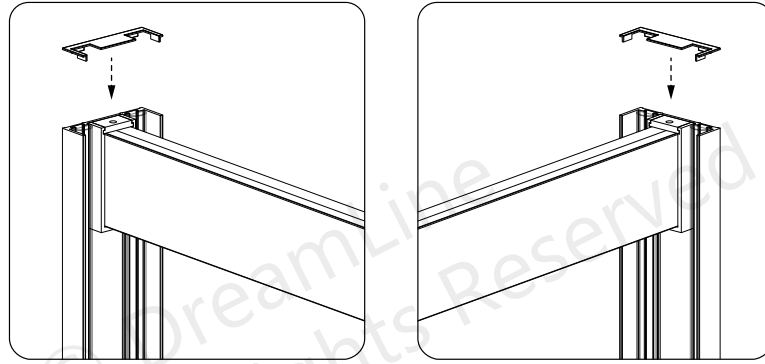

Fig 18
18. Attach the **Wall Profile Caps (#09)** to the top of both **Wall Profiles (#06)**. (**Fig 18**)